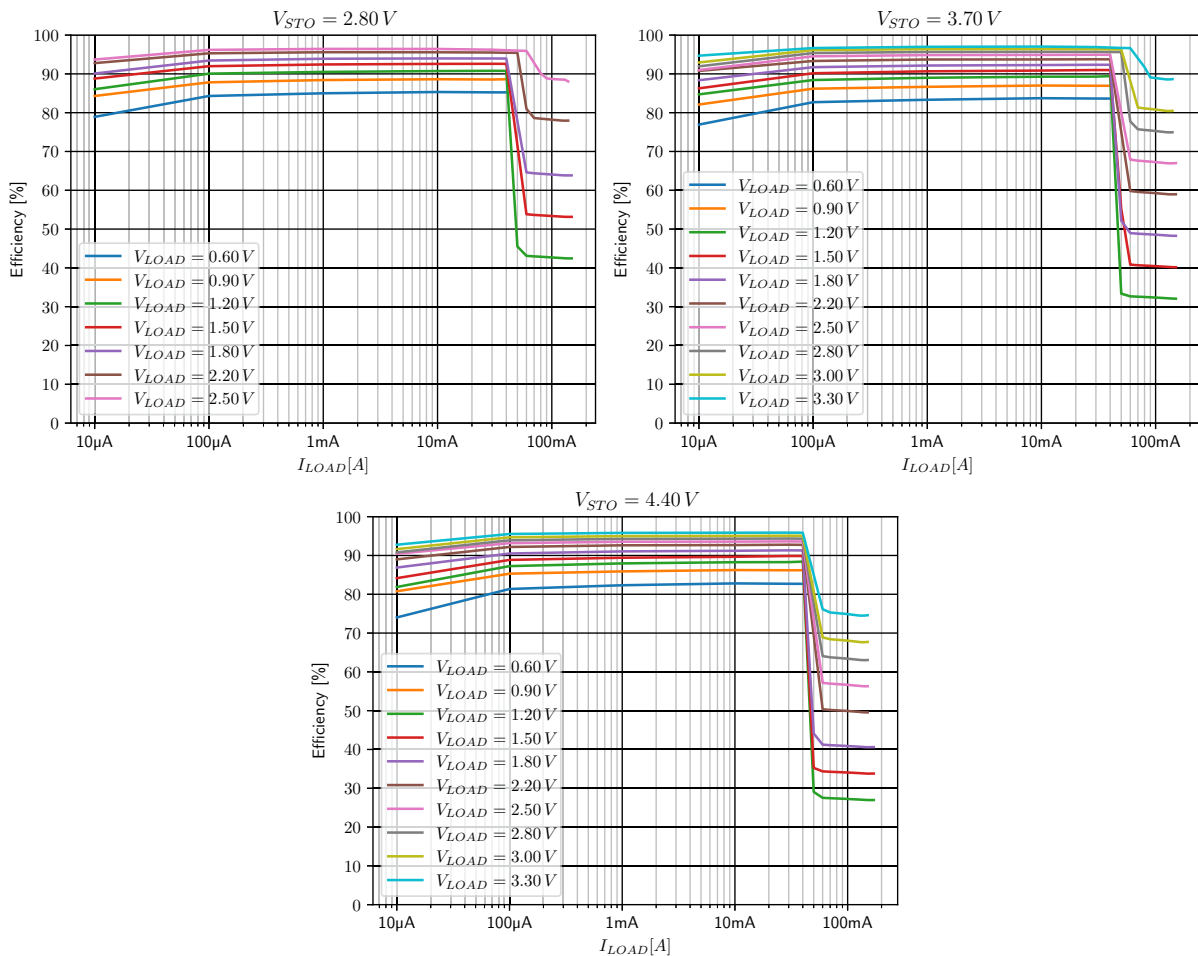

Figure 8: Buck (LOAD) converter efficiency with $L_{BUCK} = 10 \mu H$ (TDK VLS252012CX-100M-1), $T_{MULT} = x2$
- Optional: a device able to act as an I²C master and send I²C commands to the AEM15820. Only useful when testing settings that are not accessible through the configuration pins, such as buck timings. Please note that the results shown on Figure 8 are with buck timing x2, that is the default value when not configuring the AEM15820 through the I²C registers. If using the I²C bus, the default value of the BUCKCFG register is 0x03 (timing x4).